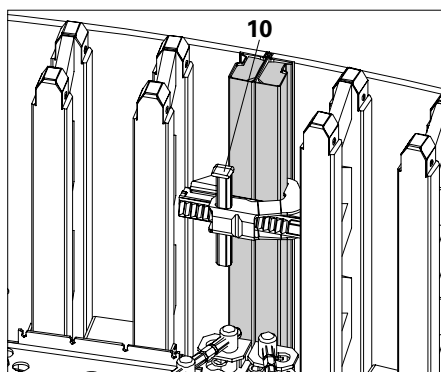

Fig. A9.02
1. Position Alignment Coupler BFD (10) on the edge profile of the panel joint and push together.
2. Hammer on Alignment Coupler BFD until the panel joint is flush and tight. (Fig. A9.02)